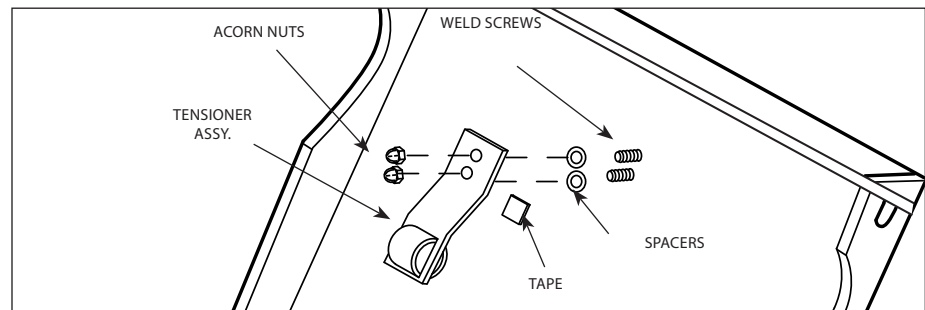

Figure 15. Replacing Roller Tensioner Assy.
1. Remove acorn nuts and old Roller Tensioner Assembly (Figure 15).